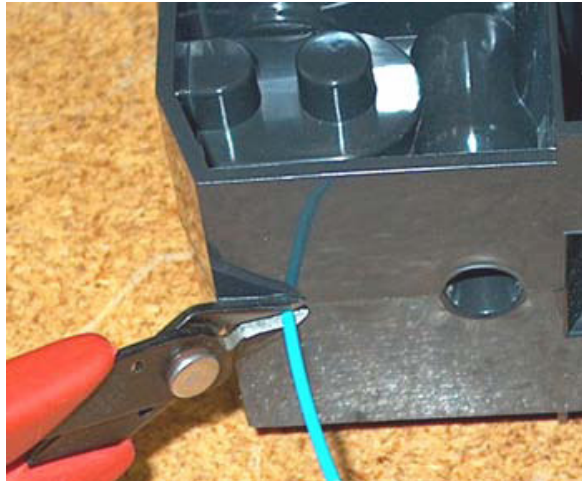

Figure 12: Snipping the material filament
5. With the cutter from your Startup Kit, snip the filament flush with the end of the cartridge (see Figure 12 on page 38).
If the display shows **Load Failed**, press **Retry**. If load fails again, remove the cartridge, snip the material (see Figure 12 on page 38), remove filament in the printer, and reinsert the cartridge.